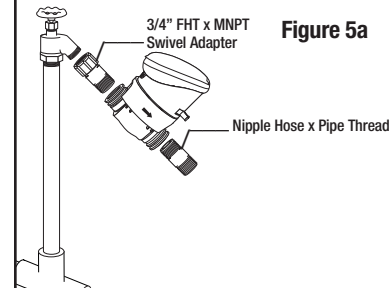

Figure 5a
3. Connect the controller to the faucet using the swivel adapter (Figure 5a).